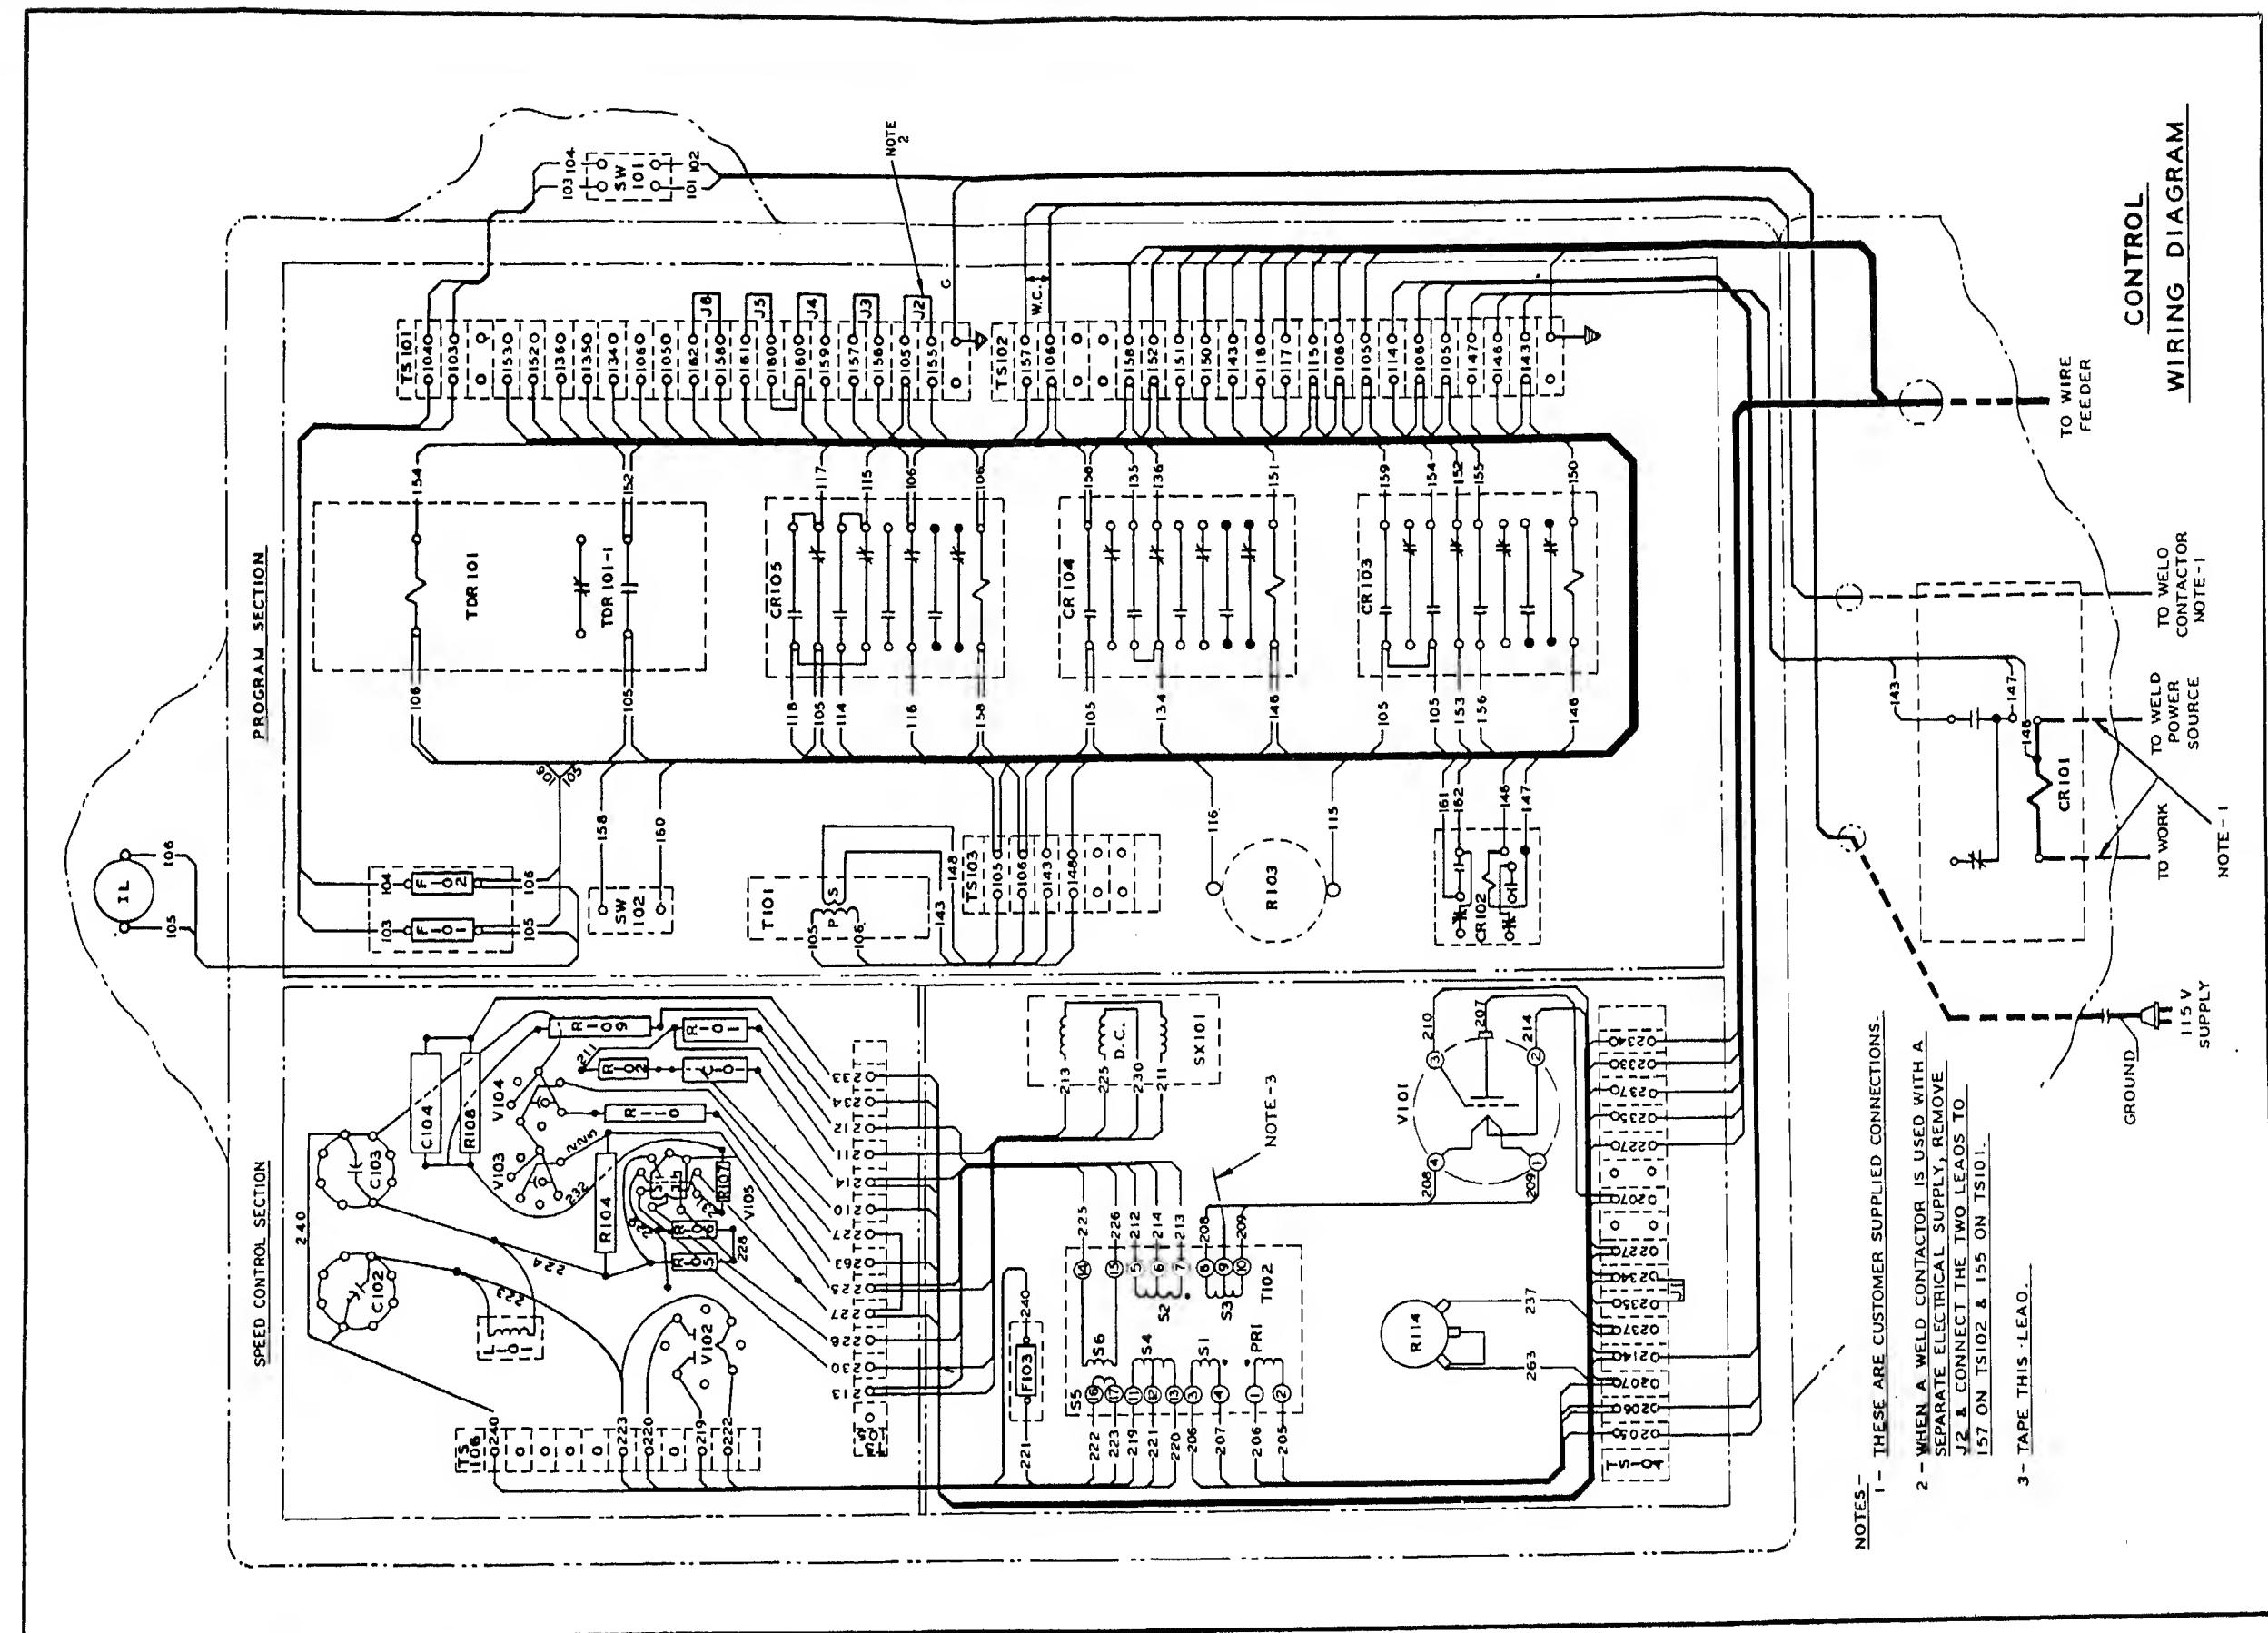

Figure 2. Wiring Diagram Control Panel #
- (2) Refer to figure 2 for the wiring diagram control panel.